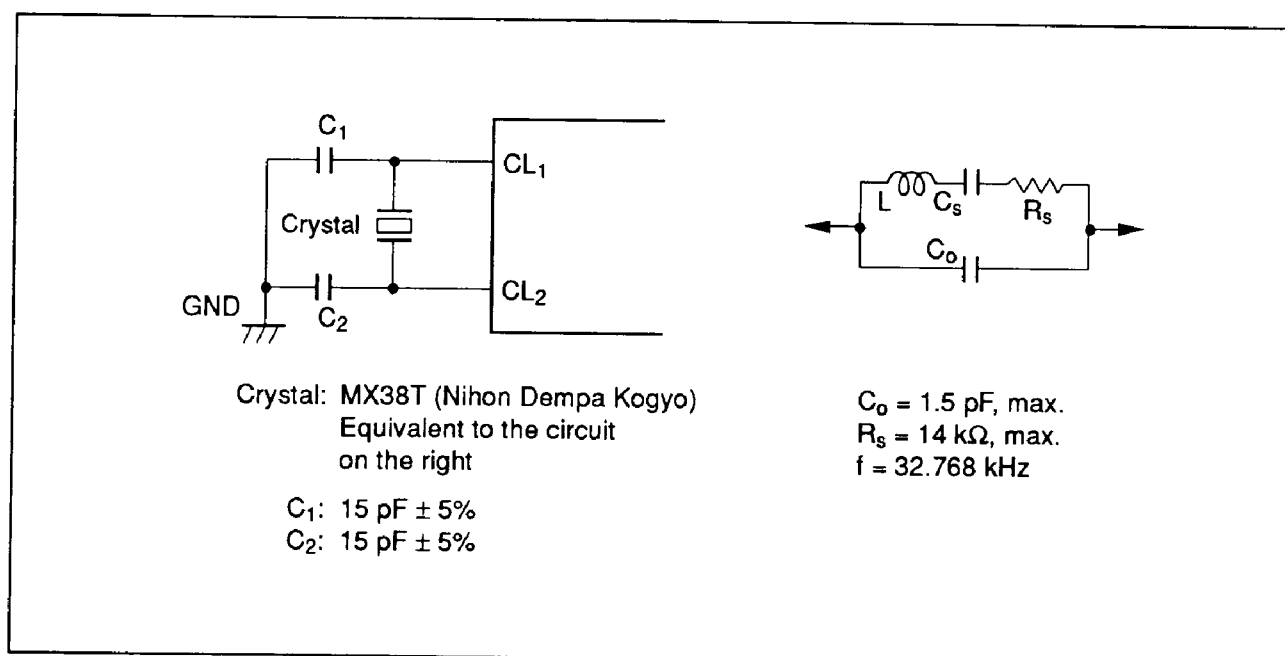

Figure 69 Oscillation Circuits (2)
2. The oscillation stabilization time is the period required for the oscillator to stabilize after  $V_{CC}$  reaches 3.0 V at power-on (figure 69). If using a crystal oscillator, contact the manufacturer to determine the circuit constants, since the stabilization time depends on the circuit constants and stray capacitances.